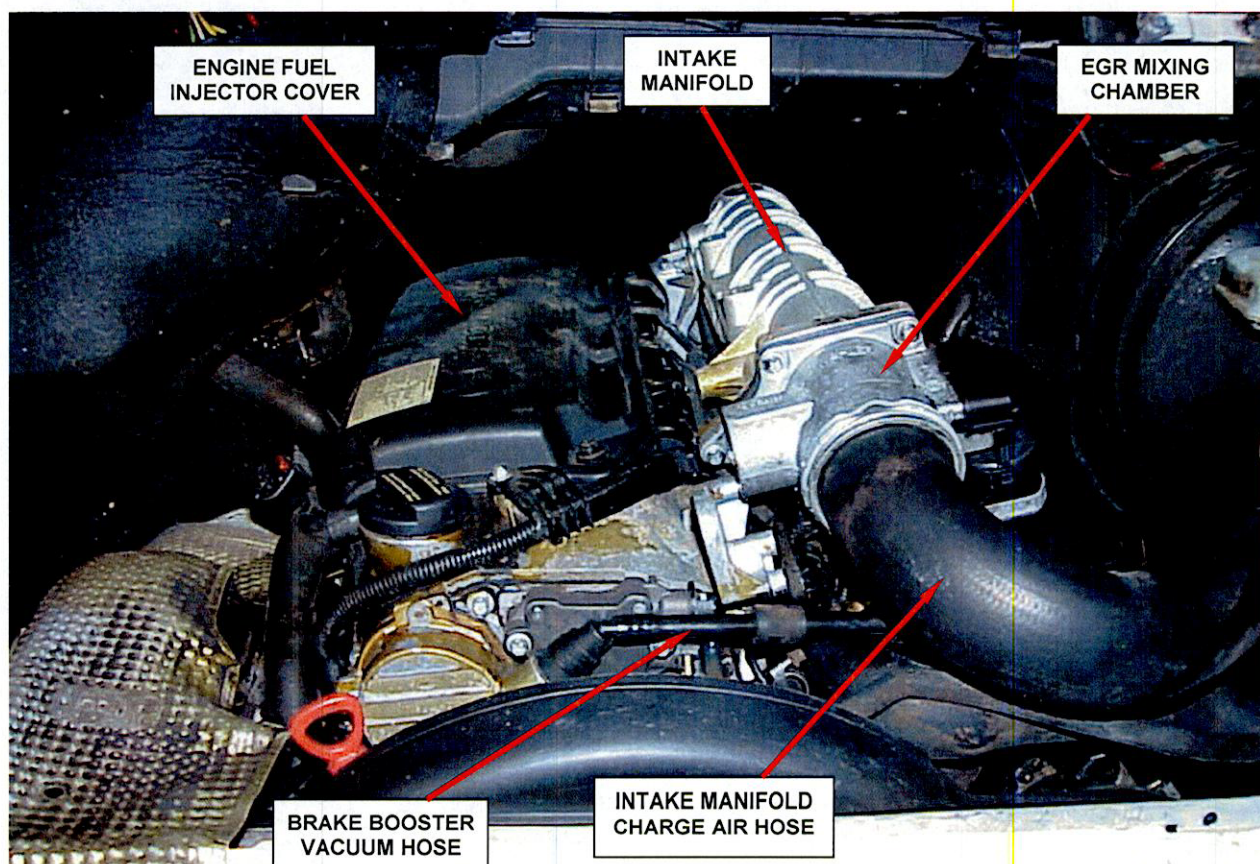

Figure 1 – Component Removal
4. Remove the engine fuel injector cover from the engine (Figure 1).
5. Remove the intake manifold charge air hose (Figure 1).
6. Remove and save the Exhaust Gas Recirculation (EGR) mixing chamber from the intake manifold (Figures 1 and 2).